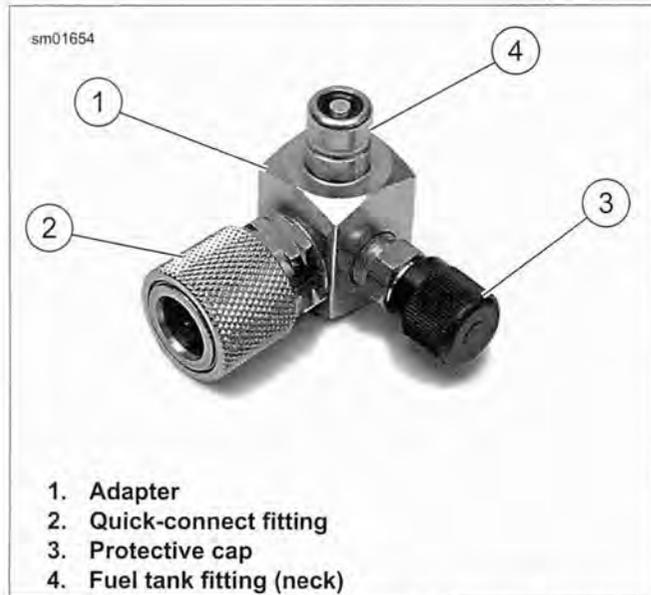

Figure 4-78. Fuel Pressure Gauge Adapter (Part No. HD-44061)
3. See Figure 4-78. Attach FUEL PRESSURE GAUGE ADAPTER (Part No. HD-44061) (1) as follows:
5. See Figure 4-78. Remove protective cap from free end of fuel pressure gauge adapter. Connect fuel pressure gauge to Schroeder valve.